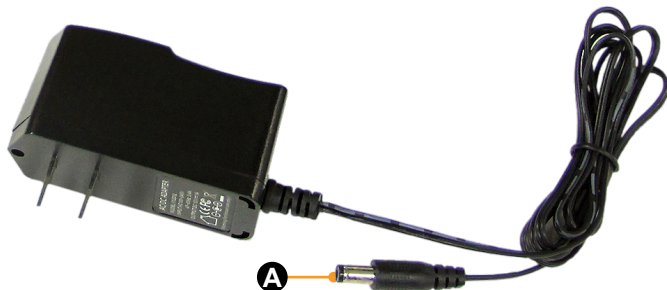
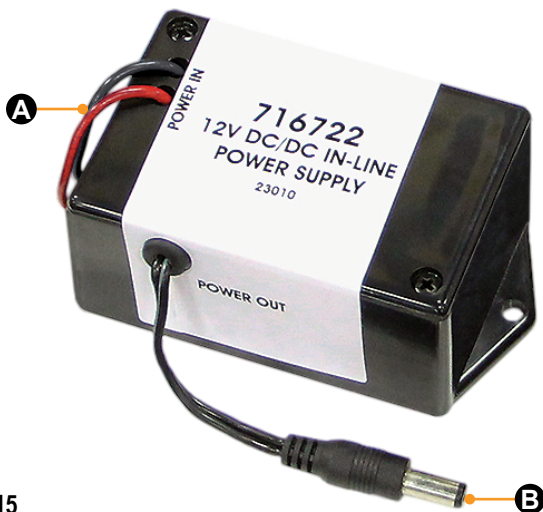

Fig.14
Fig.15
16. Use the 120V AC/DC adapter (Fig.14) for a power source by inserting the power supply's barrel connector (Fig.14A) into the back of the cellular gateway (Fig.11B), or plug the 12V DC/DC barrel connector (Fig.15B) into the back of the cellular gateway (Fig.11B).
17. Plug the 120V AC/DC adapter (Fig.14) into a wall outlet or utilize the 12V DC/DC adapter (Fig.15) by connecting the red and black wires (Fig.15A) to a 12V power source.